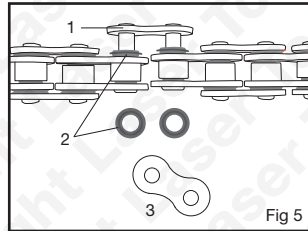
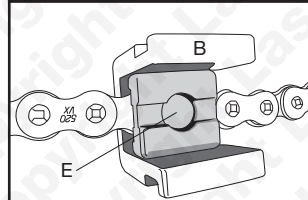

Fig 5
Fig 6
- Ensure the new chain is the correct length by counting the links on the existing chain that has just been removed. Then fit the new chain around the sprockets and connect the two ends with the soft link (1 in Fig. 5) supplied with the new chain.
- Fit the O-rings (2) and ensure that they are adequately lubricated (refer to manufacturer's documentation). Fit the soft link plate (3) over the two soft link pins. Fig. 5
- Position the U holder (B) over the soft link of the chain so that the rear soft link pin heads locate in the recesses in the inner rear face of the U holder. Place the plate holder (E) over the soft link plate (3 in Fig. 5) - Fig. 6.